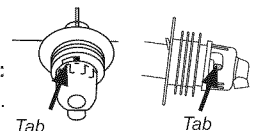

Figure 5.
- The isolating ring is securely placed in the water storage bin as shown in figure 5.